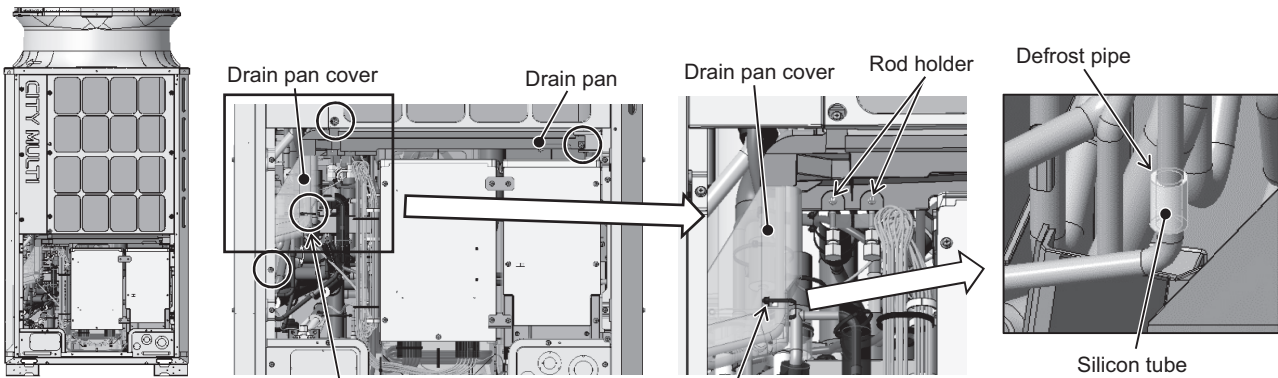

Figure 1 Cut the cable tie. Figure 2 Cut the cable tie. Figure 3
- (1) Remove the front panel from the unit by unscrewing the eight screws. (See Figure 1.) *Figure 1 shows the unit without the front panel.